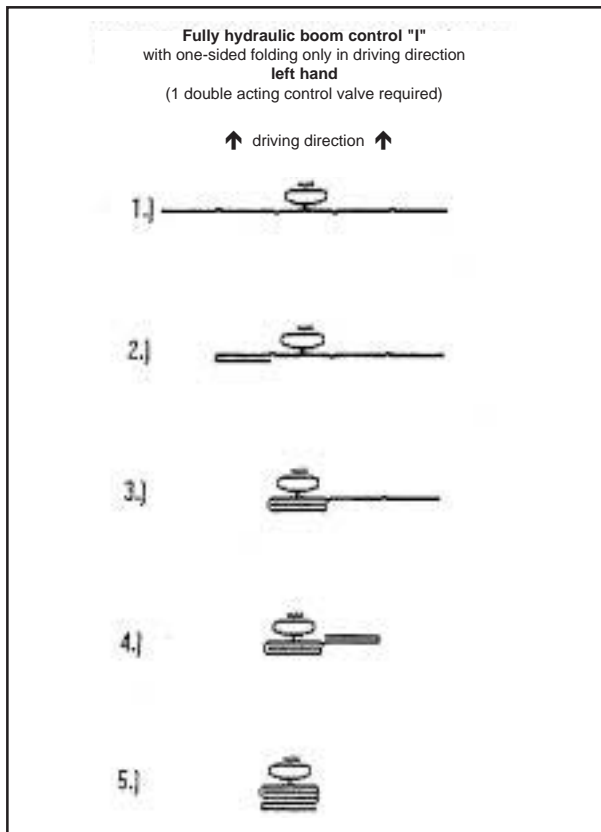

Fig. 10.4
1. **Fully hydraulic boom actuation "I"**, with the possibility to fold the left hand side in driving direction (Fig. 10.4) (required 1 single acting and 1 double acting control valve on the tractor).